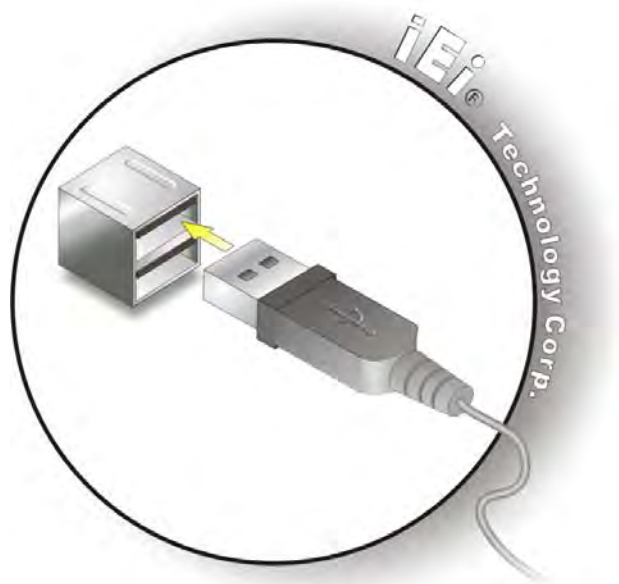

Figure 3-12: USB Device Connection
Step 2: Align the connectors. Align the USB device connector with one of the connectors on the uIBX-230-BT. See **Figure 3-12**.